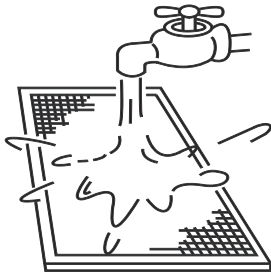

Figure 11.4
- The air intake side should face down when using clean water. (Refer to Figure 11.4)